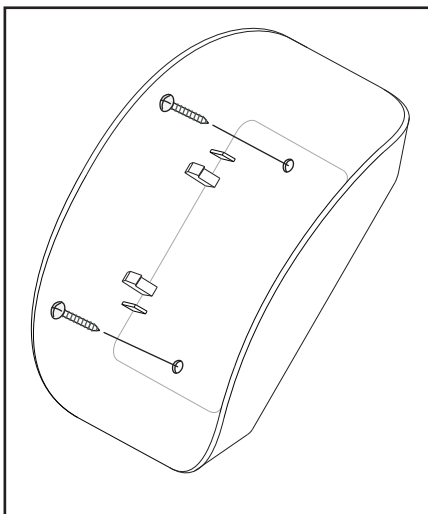

Figure 2: Screw Mount
These instructions cover installing the 1137 on an interior wall. Figures 2 and 3 show the base housing inside and outside views.
3. Using two #6 Phillips head screws (not included), press through the depressions and mount the base to the wall. See Figure 2.